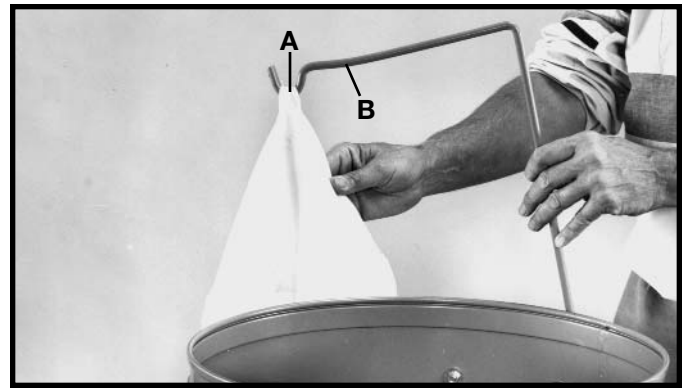

Fig. 18
1. Hook the loop on the top of filter bag (A) Fig. 18, onto filter bag support rod (B) as shown.
**IMPORTANT:** When the machine is not in use, the switch (A) Fig.18 should be locked in the OFF position using a padlock (C), with a 3/16" diameter shackle to prevent unauthorized use.